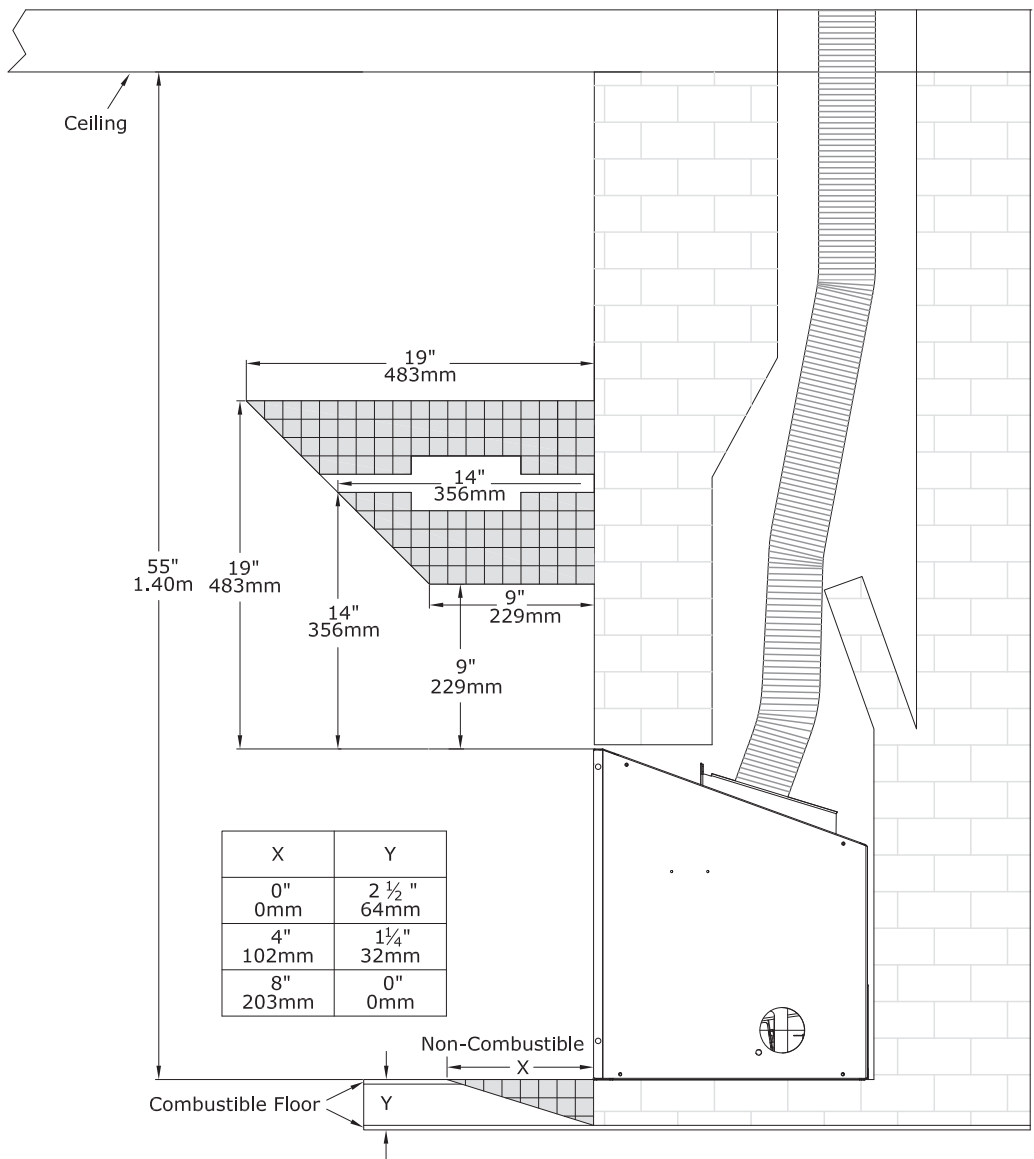

Figure 8.2, Mantel and Hearth Requirements
- As shown in Figure 8.2, the minimum clearance from the fireplace enclosure floor to the ceiling is 55" (1.04m).
- Combustible Mantel Projections - As referenced in Figure 8.2, the 9" (229mm) mantel can start at 9" (229mm) above the top of the appliance. Mantel projections can increase 1" (25mm) of depth for every 1" (25mm) of height starting at the 9" (229mm) mantel.
See Figure 8.2 for more information.
- If the appliance is raised 2-1/2" (64mm) off of the floor, combustible flooring in front of the unit may be constructed in front of the unit. If you plan to construct combustible flooring closer to the unit than 2-1/2", use non-combustible material as outlined in Figure 8.2.